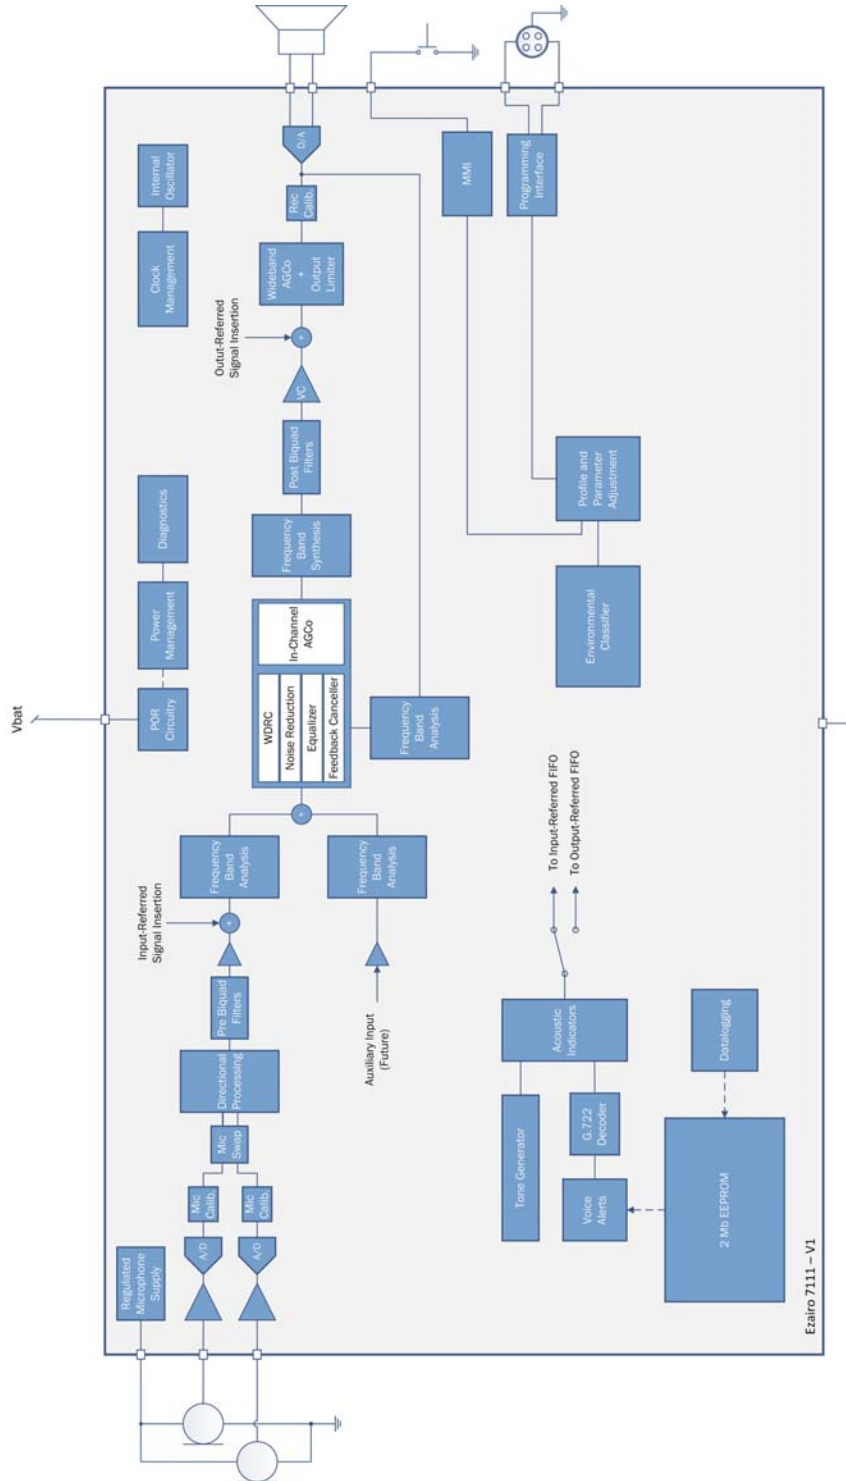

Figure 1. Ezairo 7111 Firmware Bundle V1 Block Diagram
A block diagram of the Ezairo 7111 Firmware Bundle V1 is shown in Figure 1.
The Front End (FE) and Hardware Control (HC) modules oversee and control the front end signal processing (including directional, and pre- and post- biquads) and routing. As can be seen in Figure 1, two separate input signal paths (or input channels) exist in the firmware: the main microphone(s) input channel, and an auxiliary input channel. The microphone input channel (also known as the **Front-End Mode**) cannot be disabled, while the auxiliary input channel is optional.
As can be seen in Figure 1, two separate input signal paths (or input channels) exist in the firmware: the main microphone(s) input channel, and an auxiliary input channel. Currently the only possible selection for the auxiliary channel is None.